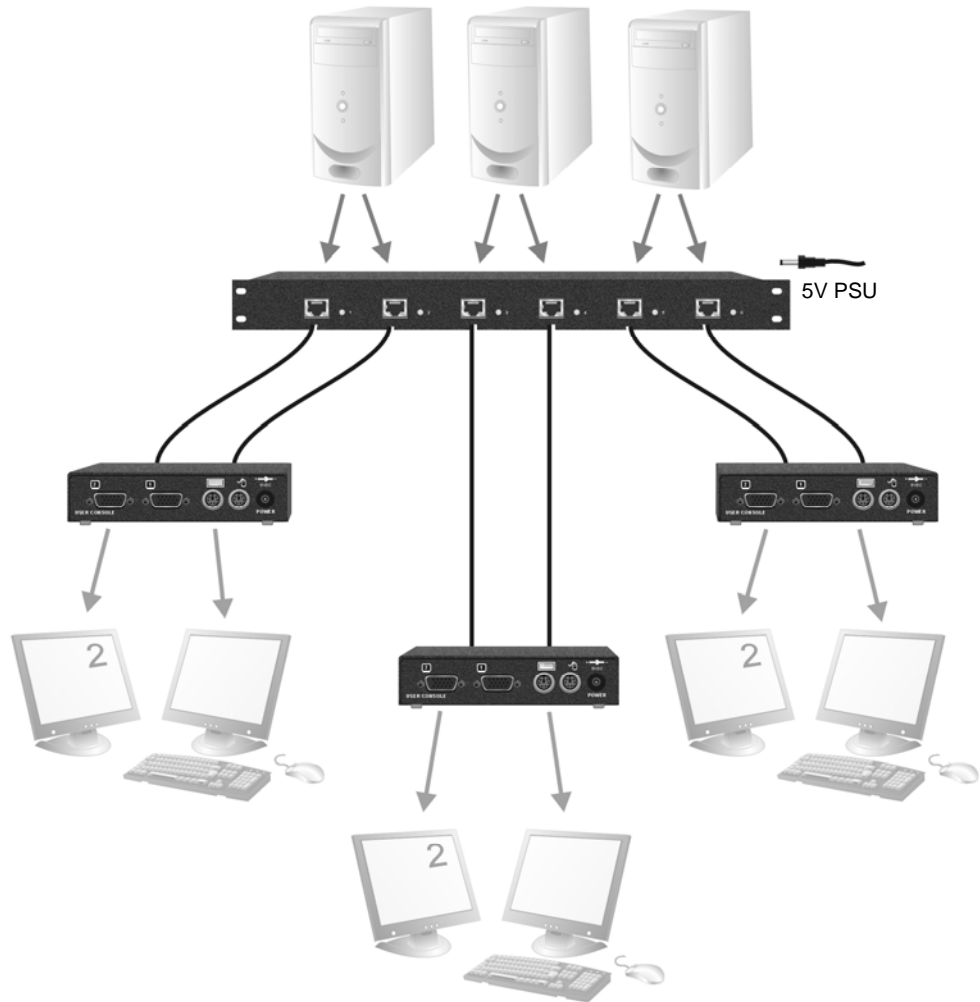

Figure 11 SDRK/6 Hub used with SDBX/R2 units to extend dual video
- With multi-head SDBX Remote Units, using adjacent hub ports to transmit the primary video/data and secondary video signals (see Figure 11).